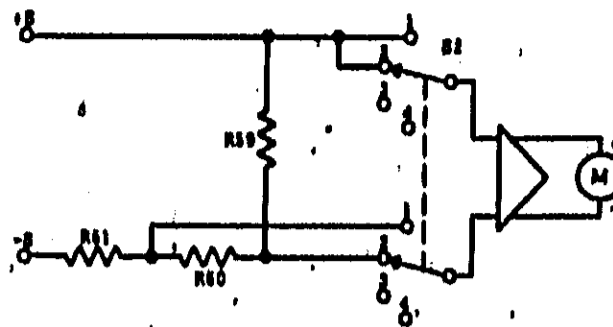

Figure 4-8. Voltmeter Connections, Simplified Schematic
4-30 Figures 4-8 and 4-9 show the meter connections when S2 is in the higher voltage and current positions, respectively. For the sake of simplicity, some of the actual circuit components are not shown on these drawings. With METER switch S2 in the higher voltage range, position (2), the voltage drop across R59 is the input to the meter amplifier and the meter indicates the output voltage across the +8 and -8 terminals. For low output voltages, S2 can be switched to position 1 resulting in the application of a larger percentage of the output voltage (drop across R59 and R60) to the meter amplifier.